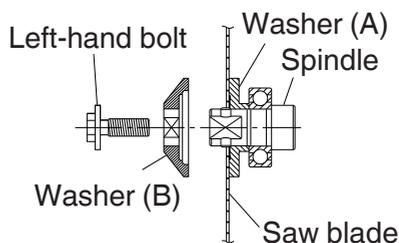

Fig. 26
- (1) Thoroughly remove any sawdust which has accumulated on the spindle, bolt and washers.
- (2) As shown in Fig. 26, the side of Washer (A) with a projected center the same diameter as the inner diameter of the saw blade and the concave side of Washer (B) must be fitted to the saw blade sides.
- (3) To assure proper rotation direction of the saw blade, the arrow direction on the saw blade must coincide with the arrow direction on the saw cover.
- (4) Using the fingers, tighten the left-hand bolt retaining the saw blade as much as possible. Then depress the lock lever, lock the spindle, and thoroughly tighten the left-hand bolt.